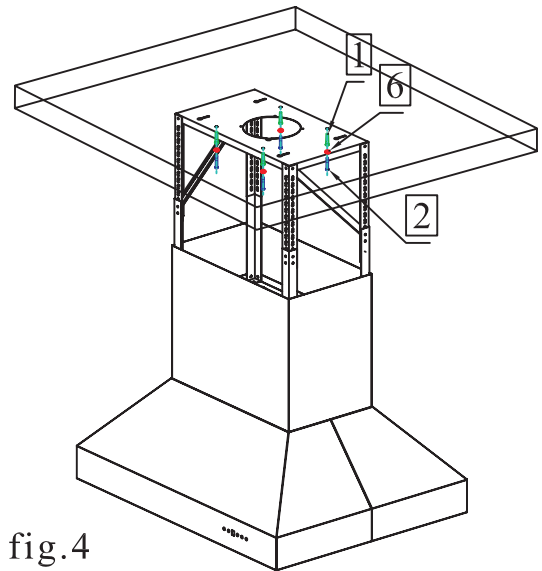

fig.4
Step four: Tighten the top mounting screws, securing the top mounting plate to the ceiling. fig 4.
1. Unpack the contents of the hood and decide which way you would like to install the hood. There are several ways to install the hood. L bracket mounting screw are provided for convenience. See Figure 4.